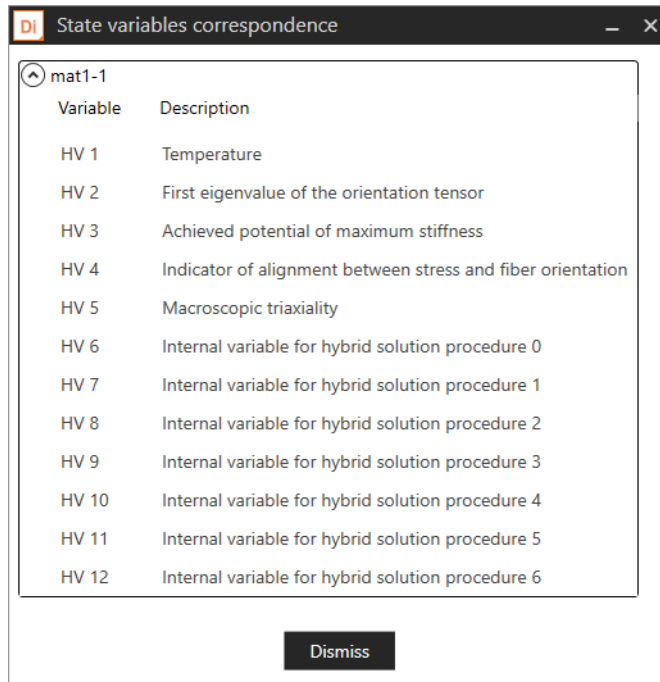

Figure 7-8 State variables used by Digimat for each Digimat material used in the selected job.
- View state variables table: displays a table containing the description of the state variables used by Digimat for the selected job (see Figure 7-8).